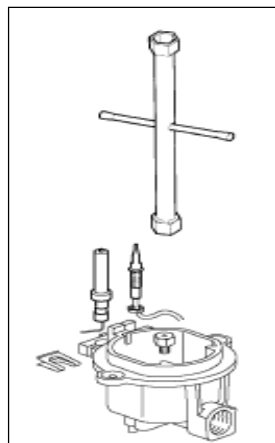

Fig 1
- Unscrew the nozzles using a 7 mm spanner, and replace them (fig 1) with those needed for the new type of gas according to what is indicated in the table below.